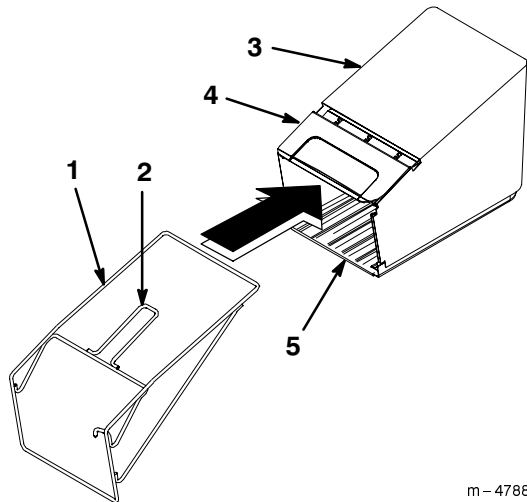

Figure 4
1. Insert the grass bag frame into the grass bag as shown in Figure 4.
2. Position the bag cover on top of the frame as shown in Figure 4.